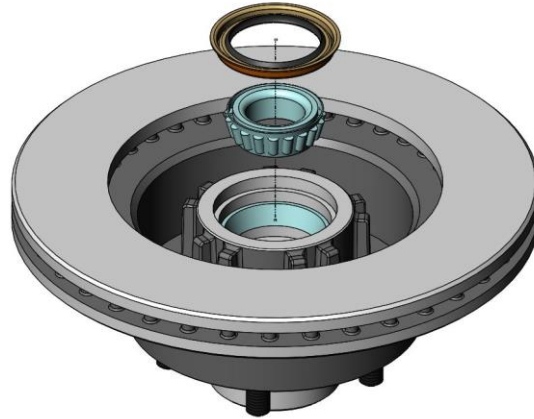

Figure 2 – Inner Wheel Bearing Installation
5. The wheel bearings can now be packed and installed. We recommend the use of Lucas Oil "Red-N-Tacky" Grease (**Available At Master Power Brakes P/N: ACNLG12**) or other high quality NLGI rated wheel bearing grease. Once the inner bearing is installed, tap the inner seal in at this point. Figure 2 below shows the bearing and seal being installed.